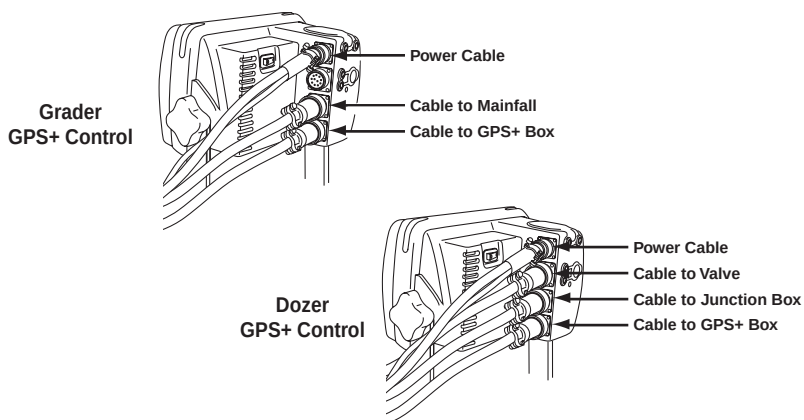

Figure 5-11. Control Box Cable Connections for GPS Applications
2. Connect the various electrical cables (Figure 5-11). Cable connections differ depending on the machine type.